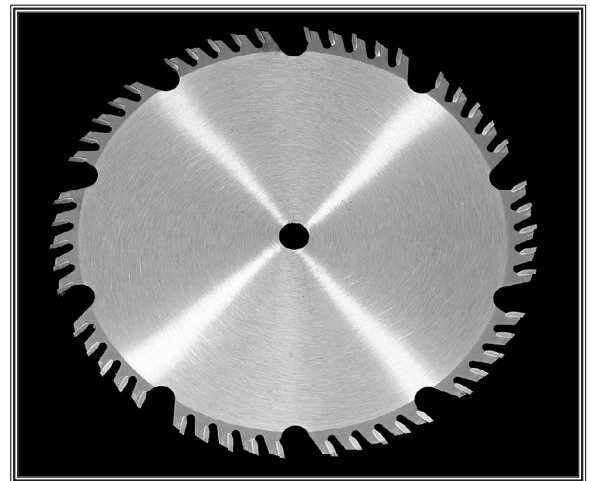

Figure 35. Combination blade.
- Combination blades (**Figure 35**) perform both ripping and crosscutting duties well. The blades carry enough teeth to perform the smooth cutting of a crosscutting blade and the large gullets of a rip blade to clear sawdust quickly. Drawbacks of this type of blade are that they do not perform either function as well as a dedicated rip or crosscut blade.